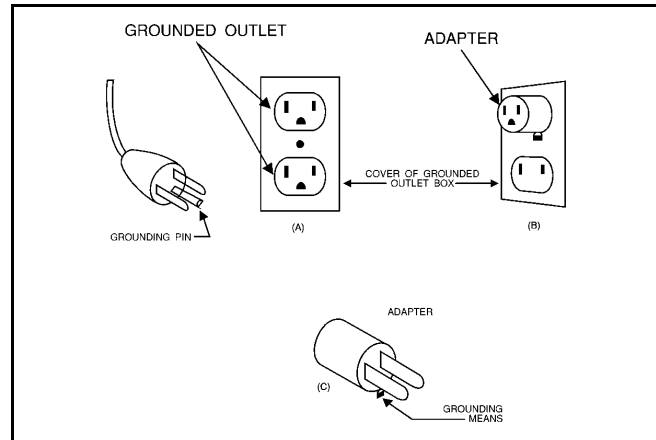

Figure 1 - Grounding Methods
15. The Rapid Charger 120 Vac line cord has a grounding plug that looks like the plug illustrated in Figure 1. A temporary adapter, which looks like the adapter illustrated in sketches B and C, may be used to connect this plug to a two-pole receptacle as shown in sketch B if a properly grounded outlet is not available. The temporary adapter should be used only until a properly grounded outlet can be installed by a qualified electrician.